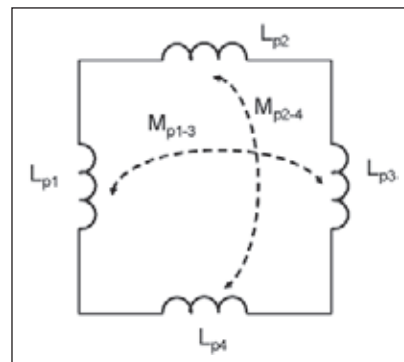

Figure 1: Partial Inductance Components of Simple Rectangular Loop
where sides 1 and 3 are parallel to each other and sides 2 and 4 are parallel to each other (see Figure 1), equation (1) can be used to calculate the total inductance from the partial inductances. Note that the partial inductances from each leg of the loop are added, while two